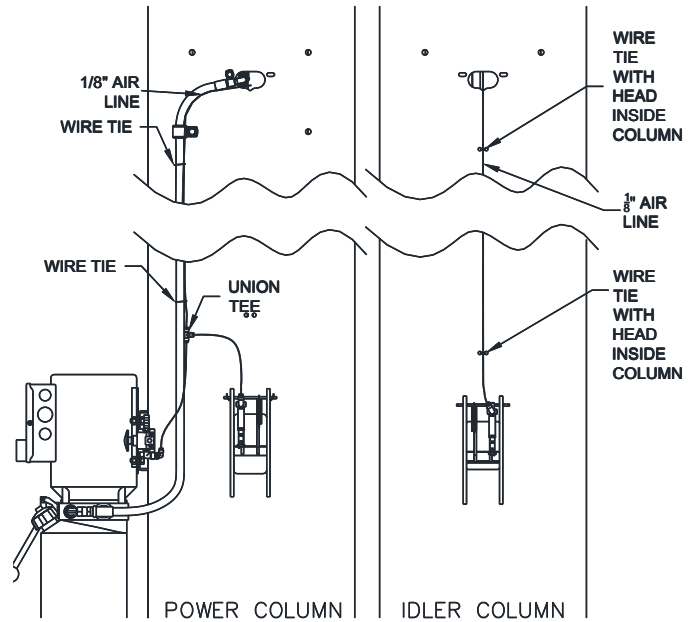

Fig. 17 – Lock Release
- 52) Connect the rest of the 1/8" air line to the top of the tee and run it along side the hydraulic hose up the column and across the overhead attaching it to the hydraulic hose with wire ties (**Fig 17**).
- 54) Secure the air line to the Idler Column using black wire ties through the double holes in the middle of the column. Place the head of the wire tires inside the column. Cut the air line to length and attach it to the idler side lock release air cylinder (**Fig. 17**).